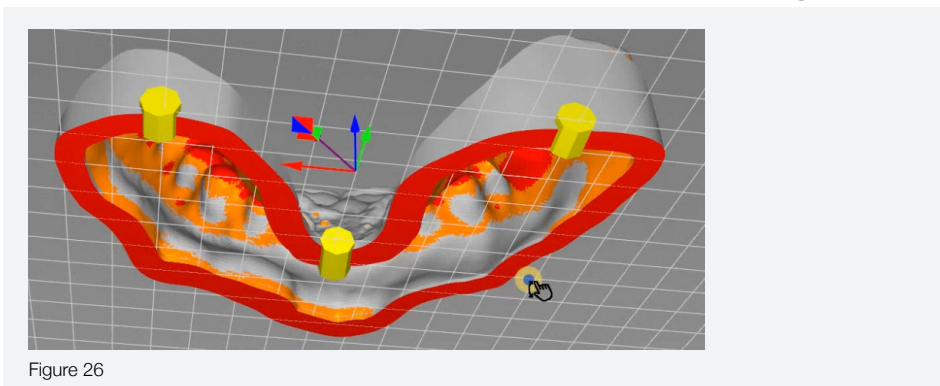

Figure 26
- If your models are already hollow before you imported them into 'Photocentric Studio' and they don't have a floor, add 3 drain holes by following the steps in the previous section and position them above the platform (figure 26).